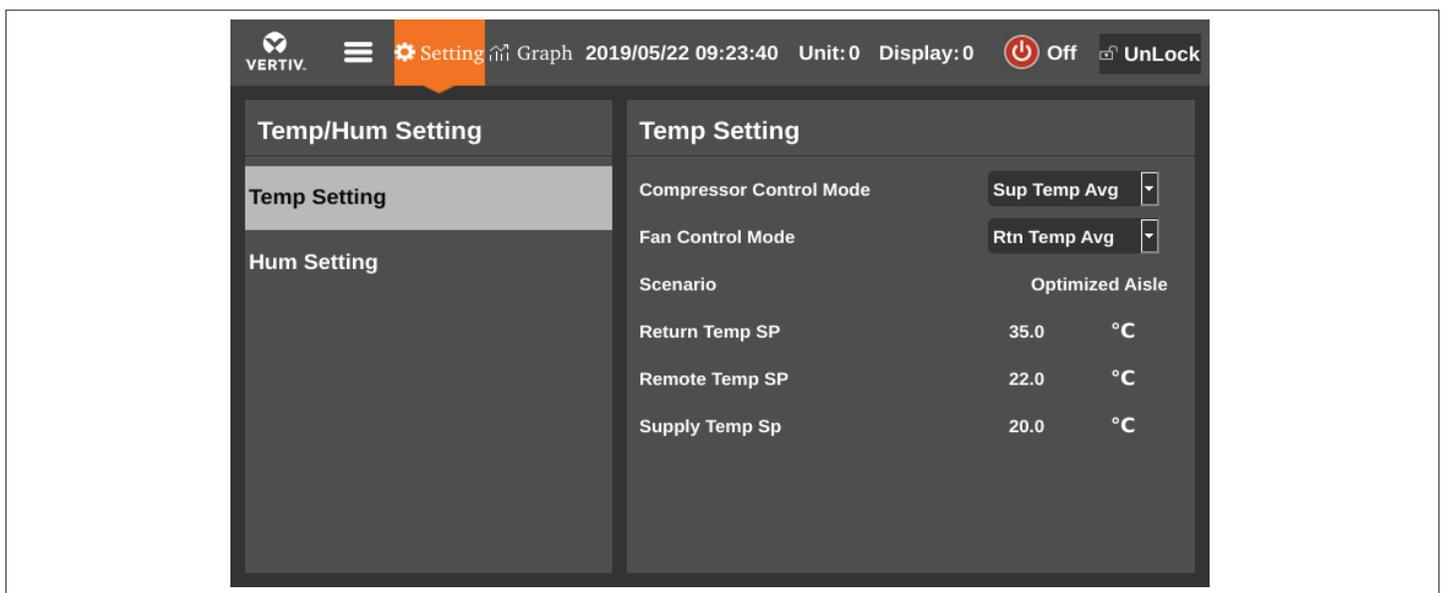

Figure 3-12 Control Mode Settings
2. Select the appropriate control mode in the drop-down menu as shown in Figure 3-12 to complete the set.